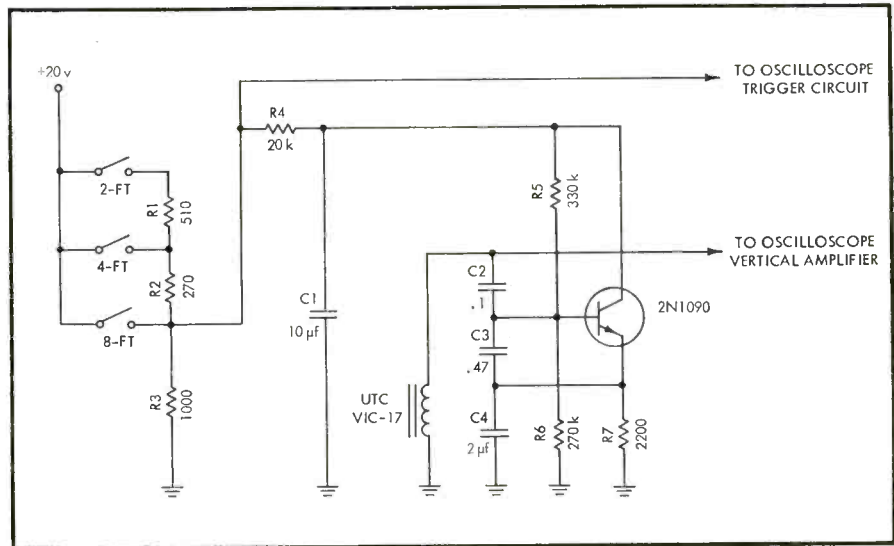

Fig. 6. An oscillator in which different amplitudes may be produced by different keying voltages.
One manufacturer (Gulbrandsen) has done this in a commercial instrument by using key contact supply voltage bus bars at different voltage levels for each different pitch.³ Isolating diodes must be used in series with the key contacts to prevent shorting the bus bars together when an oscillator is simultaneously keyed from more than one. The same result could also be achieved with all bus bars at the same voltage and Zener diodes of different voltages in series with the switch contacts. Another solution, which is probably cheaper, is shown in Fig. 6. The waveforms produced by this purely experimental circuit are depicted in Fig. 7. Readers should be cautioned that this oscillator is not necessarily a good one for an electronic organ. It was assembled from available components merely for the purpose of demonstrating the keying circuit. In Fig. 6, resistors R_1 , R_2 , and R_3 form a voltage divider. The key contacts apply voltage to it at different points. The 8-ft. contact applies full voltage to the oscillator. The contacts for the higher pitches (which would be on other keys of the keyboard) apply reduced voltages. By making the divider current appreciably (10 times) higher than the oscillator current, the impedance at the input to the attack control filter may be kept low, so that no matter which contact is operated there is negligible variation in the oscillator attack
Fig. 7. Waveforms produced by the oscillator of Fig. 6: (A) when keyed from the 8-ft. contact; (B) when keyed from the 4-ft. contact; (C) when keyed from the 2-ft. contact.